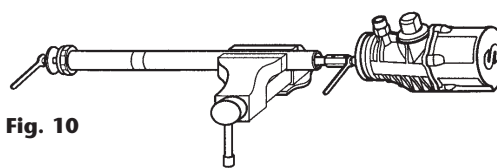

Fig. 10
4. Introduce an open end wrench in the milling of the lower part of the air piston and unscrew the nut (41) and remove the washer (40) (fig. 10).